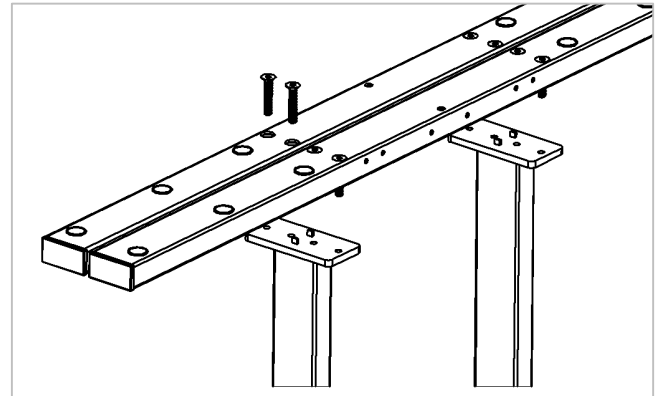
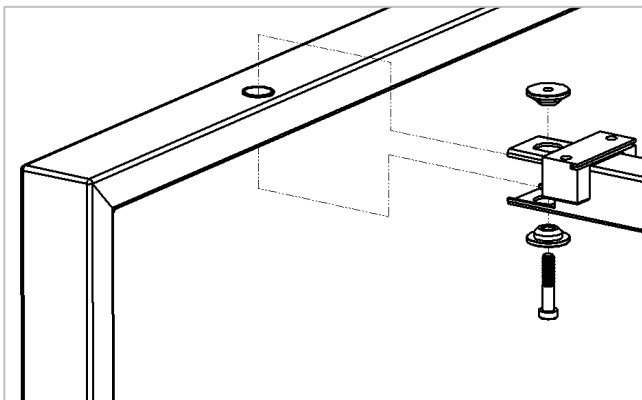

Fig. 2 (for 2, 3, 4 and 5 bar tables only)
Fig. 3
- Connection to mid run leg shown in Fig. 2 is the same as shown in Fig. 3.